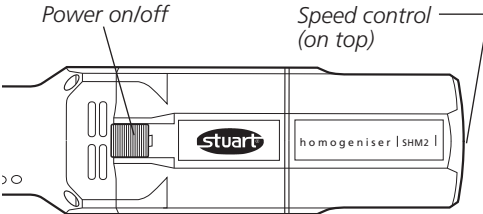

Fig 2
3. Ensure the speed control dial is set to the lowest setting (refer to Fig 2).